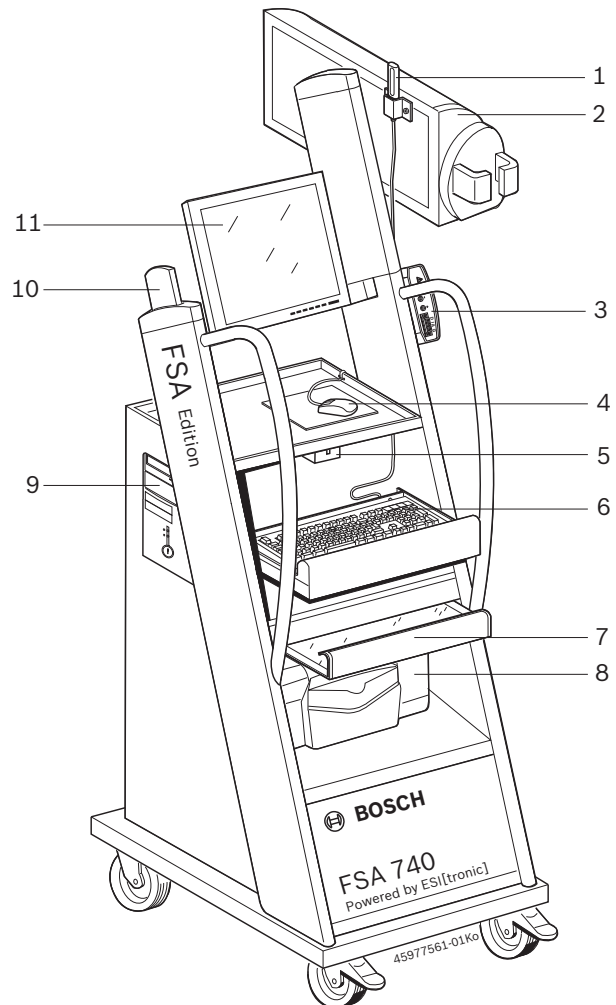

Fig. 1: FSA 740 Edition front view
3. Insert the printer into the trolley (Fig. 1; item 8).